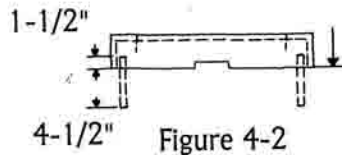

Figure 4-2
2. It is recommended that you install non-corroding steel dowels in the deck to prevent the column from moving laterally. These should be positioned to set just inside opposite (diagonal) corners of the plinth and should protrude from the deck 1-1/2" (Fig. 4-2).